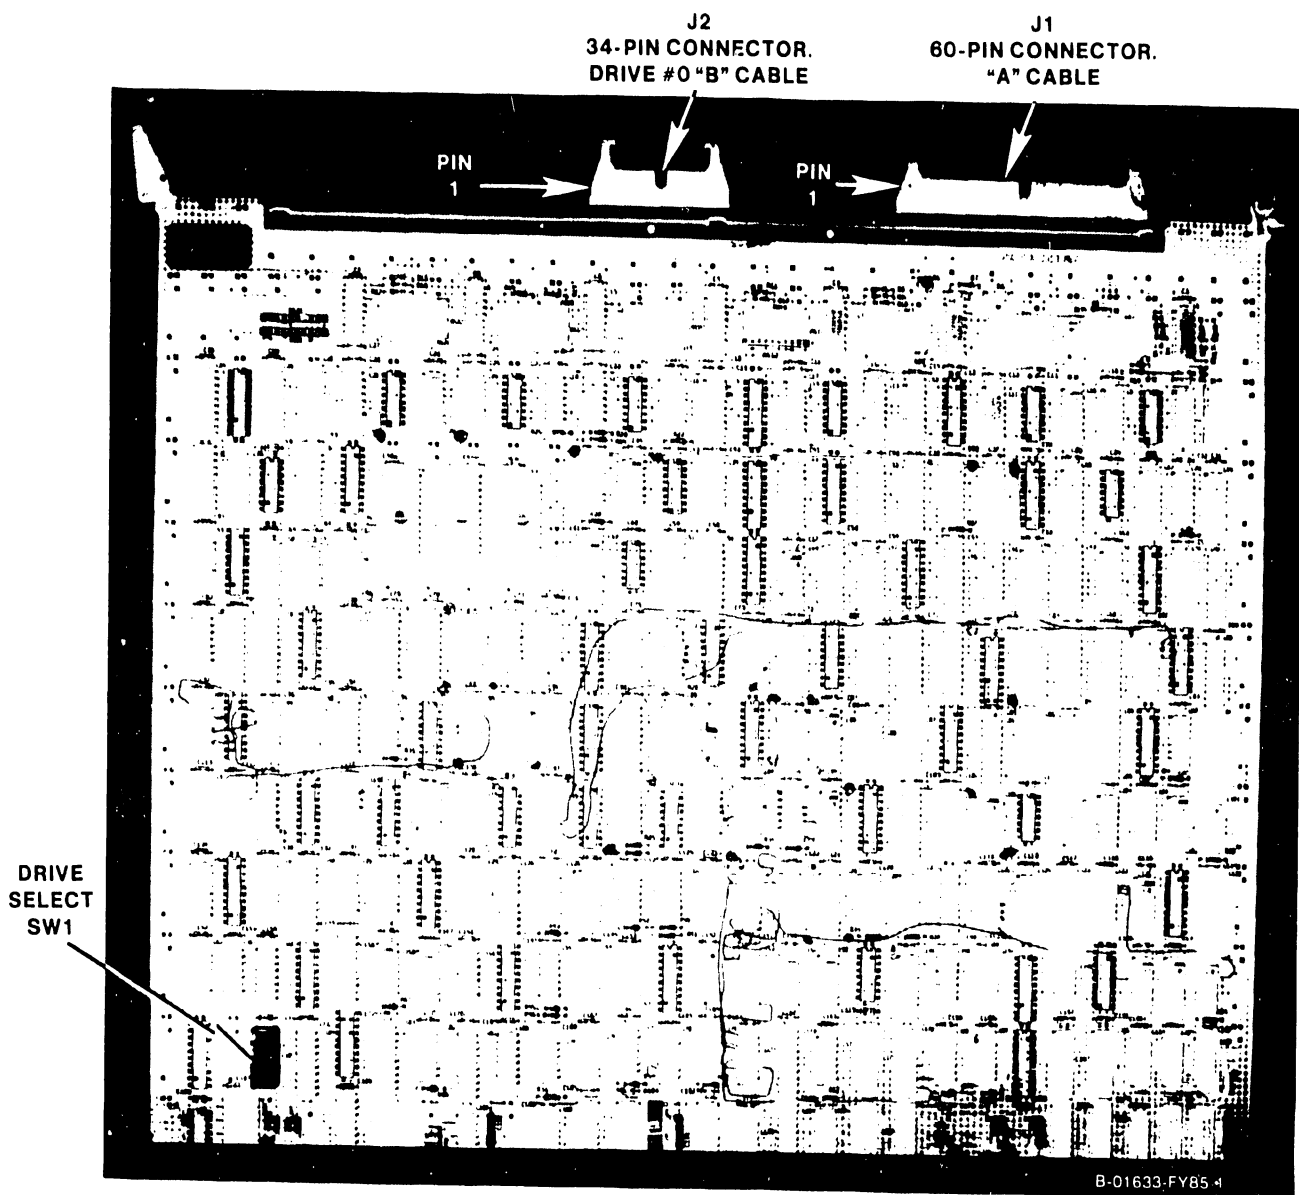

Figure 5-14a. 210-8312 1-Port SMD Disk Device Adapter
1. Remove both connectors from the top of the SMD Device Adapter (figure 5-14a) in Motherboard slot #5 (I/ODA2). Note the position of all connectors for later reassembly.